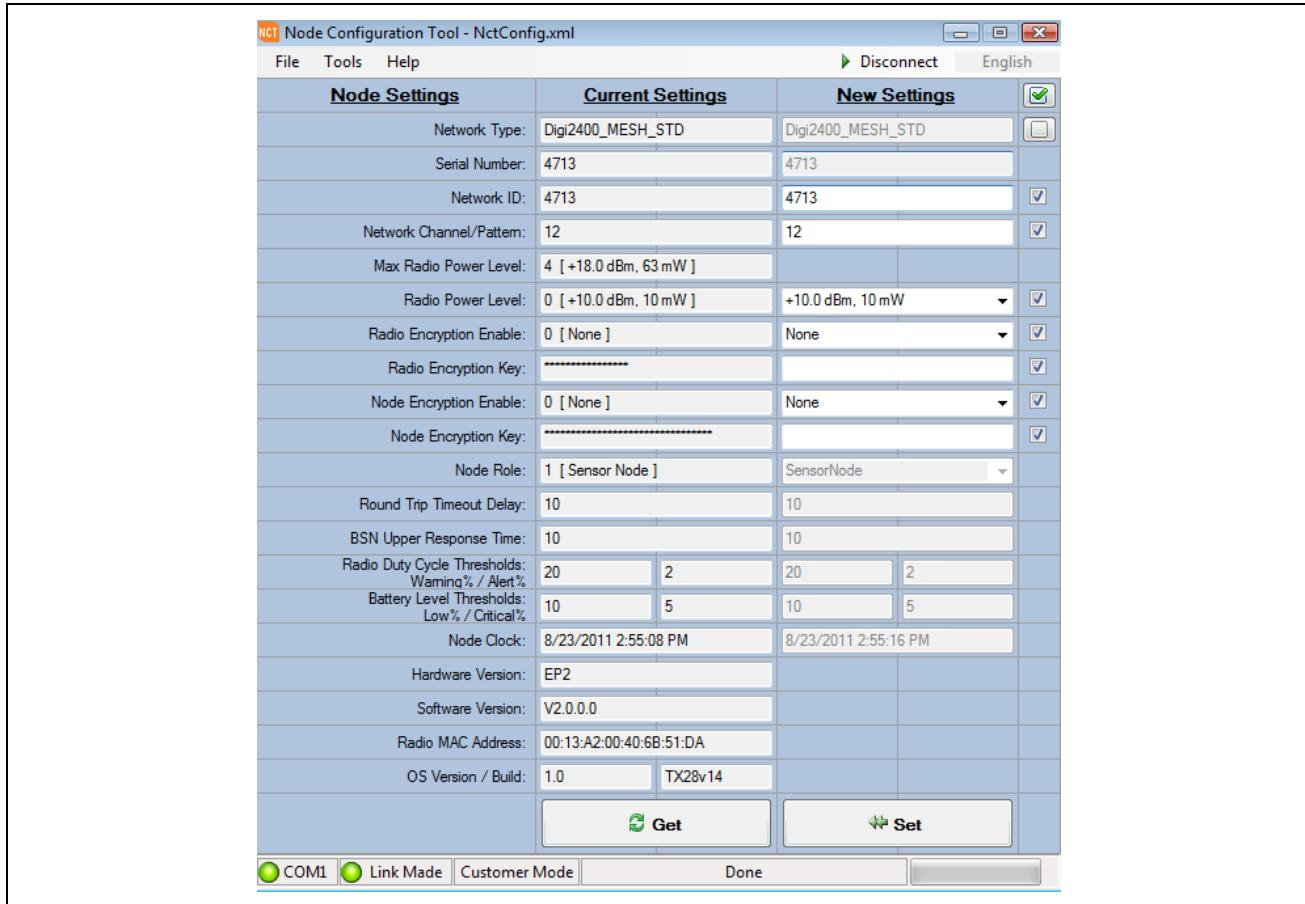

Figure 2 NCT Main Screen Showing the current Sensor Node settings
- 7 When a link is made the NCT will automatically get and display the sensor nodes current settings. The Network Type of the attached sensor node will be automatically added to the new settings column. See Figure 2.